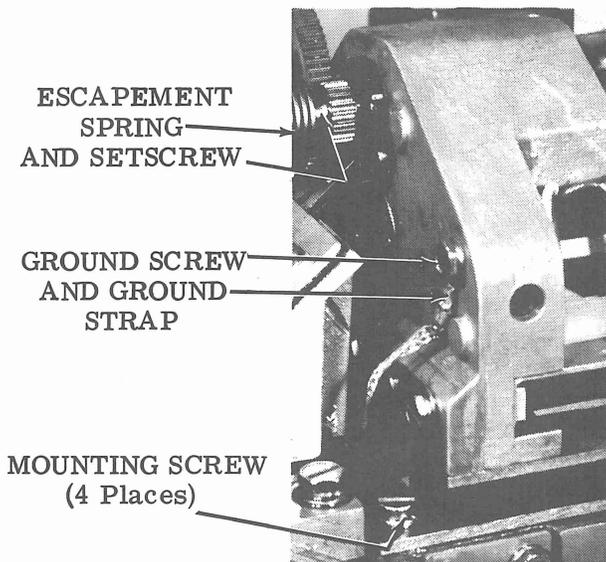

Figure 4 - Stepper Block Assembly
**STEPPER BLOCK ASSEMBLY (Figure 4)**